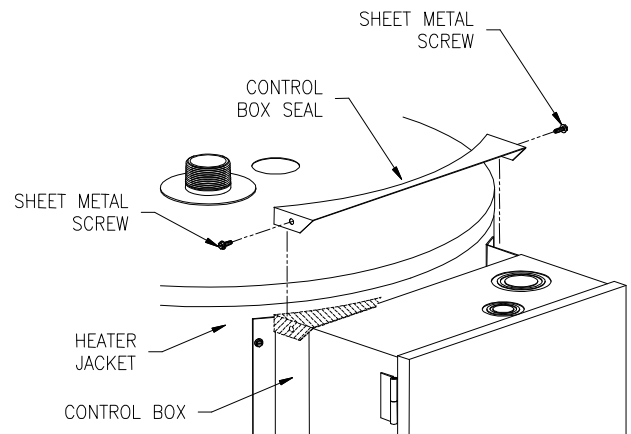

Figure 1
- Place control box seal on top of control box sealing gap between control box and water heater jacket. Attach control box seal to control box using two (2) sheet metal screws (**see Figure 1**).